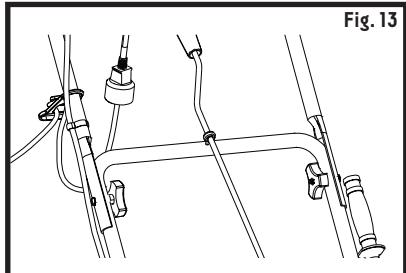

Fig. 13
3. Insert the female end of the extension cord into the snowblower's polarized male plug (Fig. 13).